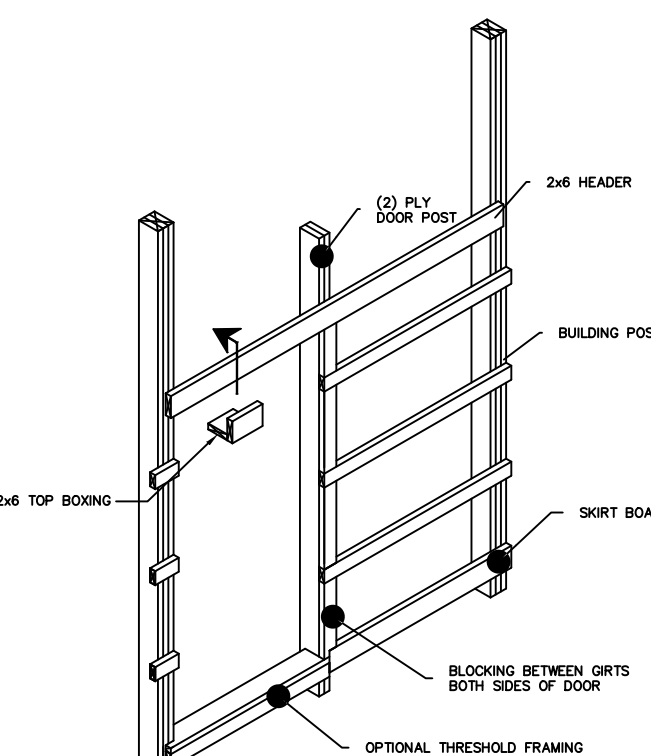
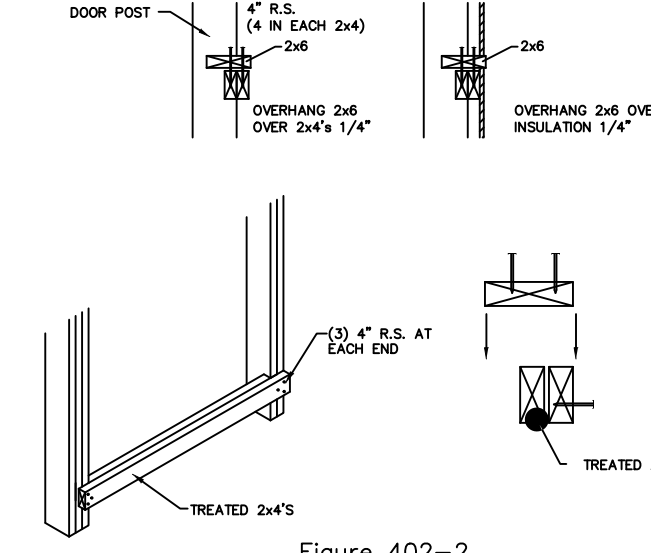

Figure 402-1
Figure 402-2
1. The rough opening (RO) of doors provided by Borkholder will be shown on the prints.
4. Install the framing as shown in figure 402-1. You must add blocking between the girts from scrap. (You should have at least the cut off from three girts figured to run through the door opening). When rigid insulation is installed under the siding, be sure to block out so that the face of the blocking matches the face of the insulation.
8. The optional threshold package consist of (2) treated 2x4's and (1) treated 2x6.
9. Install the optional threshold package as shown in figure 402-2.